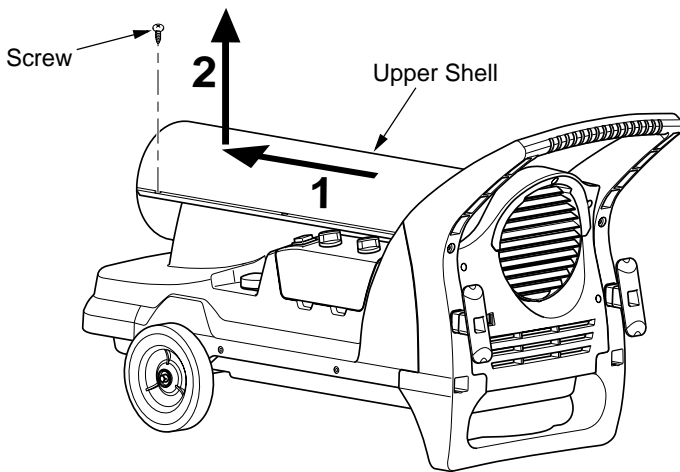
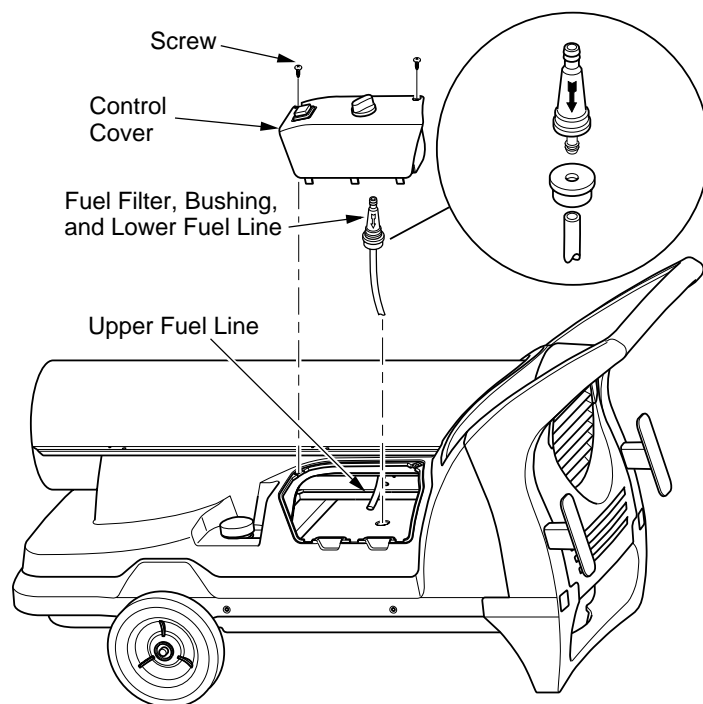
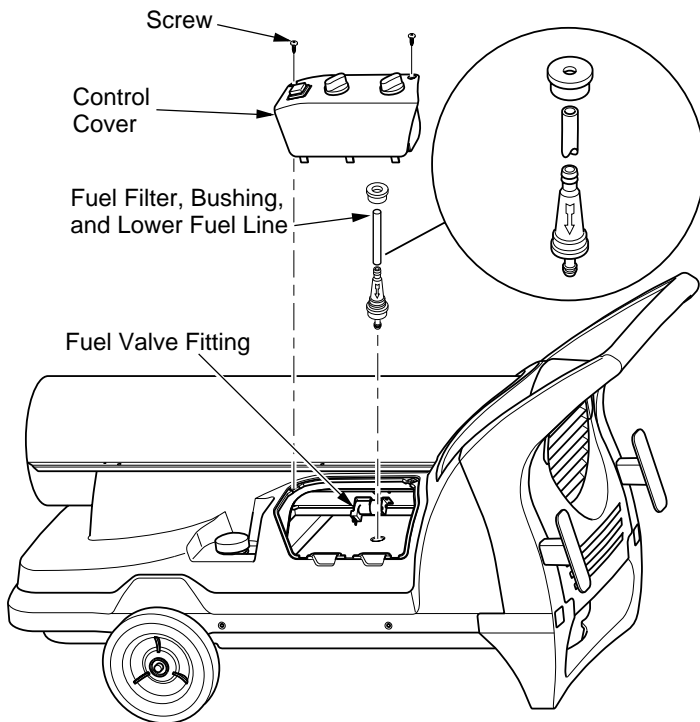

Figure 6 - Upper Shell Removal (Variable Output Model Shown)
Figure 12 - Fuel Filter Removal
Figure 13 - Fuel Filter Removal, 200VT Model Only
1. Remove screws along each side of heater using phillips screwdriver. These screws attach upper and lower shells together. See Figure 6.
1. Remove upper shell (see Figure 6).
3. Pull upper fuel line off fuel filter neck (see Figure 12).
4. Carefully pry bushing, fuel filter, and lower fuel line out of fuel tank (see Figure 12).
2. Remove control cover (see Figure 13).
3. Pull lower fuel line off the fuel valve fitting (see Figure 13).
1. Remove control cover (see Figure 13) and upper shell (see Figure 6, page 9) screws using phillips screwdriver.
3. Remove 2 control cover screws with a phillips screwdriver. Remove control cover (see Figure 12, page 10 or Figure 13, page 11, according to model).
12. Replace control cover (see Figure 12, page 10 or Figure 13, page 11, according to model).
2. Remove control cover screws using phillips screwdriver (see Figure 12, page 9).